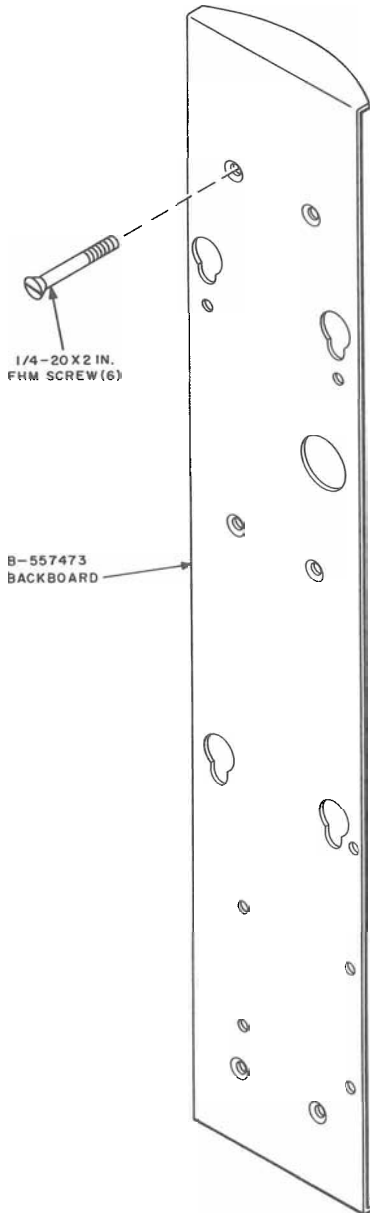

Fig. 4—KS-19206, List 7 Coin Telephone Set Installation Kit
3.17 *List 7 Kit:* Install KS-19206, List 7 kit in accordance with Fig. 4.